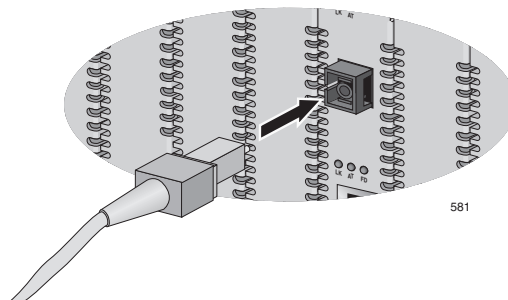

Figure 31. Connecting to the Simplex SC Fiber Optic Port
- Connect the appropriate optical cable to the port, as shown in Figure 31.